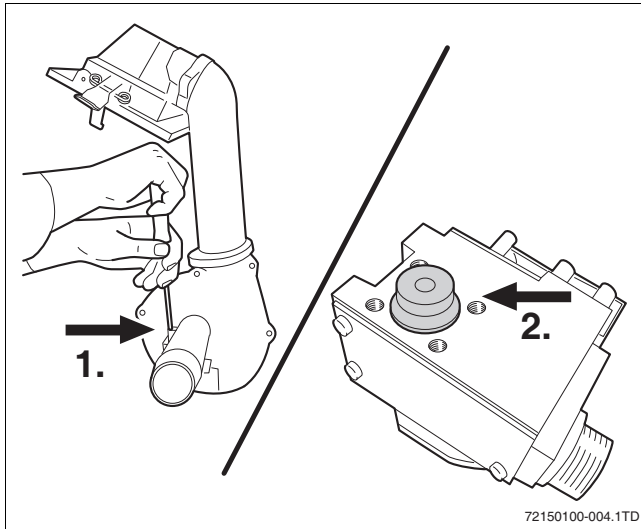

Fig. 4
- ▶ Loosen the 3 Phillips screws (→ fig. 4, [1]) and remove the gas valve from the fan unit.
- ▶ Remove the gas orifice (→ fig. 4, [2]).